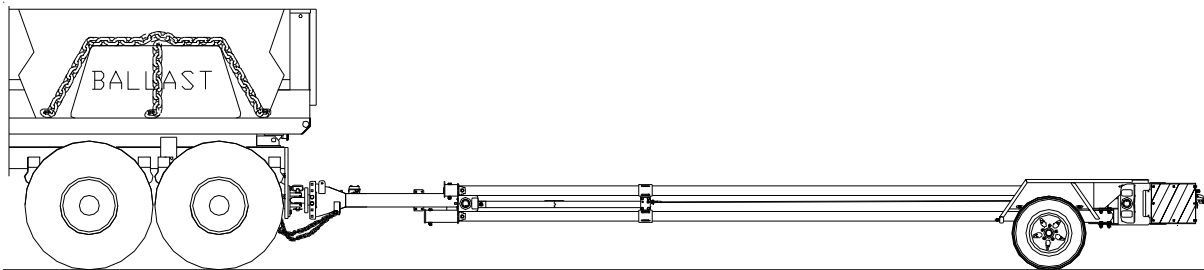

Figure 7
5. **Ballast and other heavy objects MUST BE ADEQUATELY ANCHORED to the truck to prevent shifting during an impact.** (The tie-down straps should be strong enough to hold 20 times the weight of the ballast.) See Figure 7.